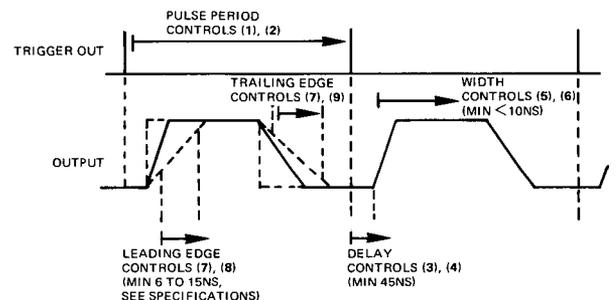

Figure 3-2. Pulse Generation in the Normal (internal) Mode
3-6 When the mode control (24) is set to NORM, the internal rep rate generator runs continuously at a rate set by controls (1) and (2). A positive output pulse is available at connector (19) and an output pulse (whose shape depends on the setting of controls (3) to (9) as shown in Figure 3-2) appears at the channel A and channel B outlets (17), (15). Output levels and format are described later.